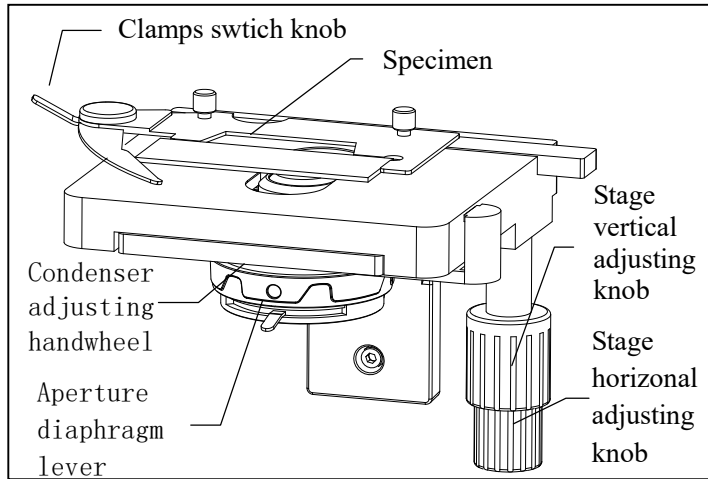

Fig.2 Stage and condenser
3.2.2 Place sample (Fig.2)
3.2.3 Condenser (Fig.2)